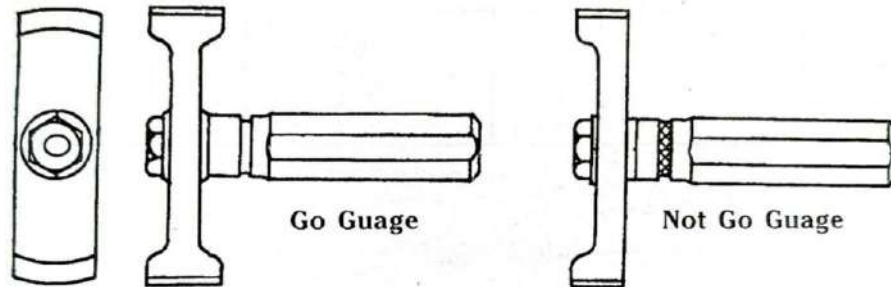

Fig. 4 Shell Form of Plug Gauges
- For dimensions over 100 mm and upto 250 mm a shell form of plug gauges as shown in the Fig. 4 are used.